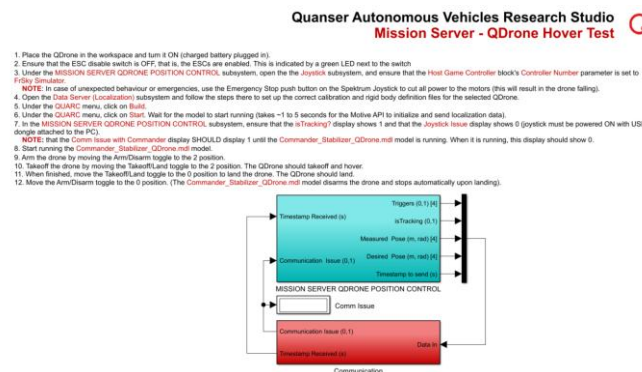

Figure 4. Mission Server Model
7. Open a different MATLAB instance and from this window, in the same folder containing this file, open the folder QDrone Hover Test, and open Mission_Server_QDrone_Hover_Test_FrSky.mdl (Figure 4). (If you have a Spektrum controller, open the file that does not end in FrSky).